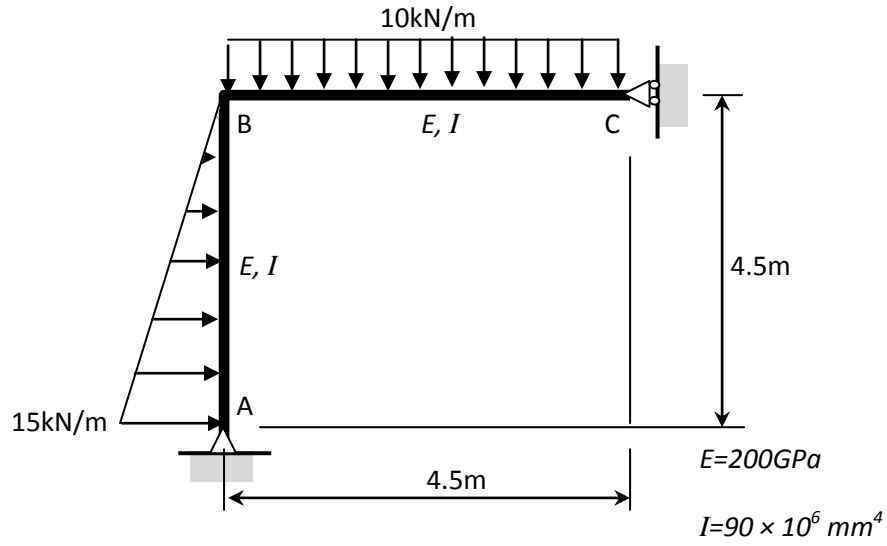

Figure 2
- (b) Figure 2 shows a simple 2-member frame which is pinned at A and roller supported at C. A linearly distributed load acts along member AB and a uniformly distributed load acts along member BC. It is given that $E=200\text{GPa}$ and $I=90 \times 10^6 \text{ mm}^4$.